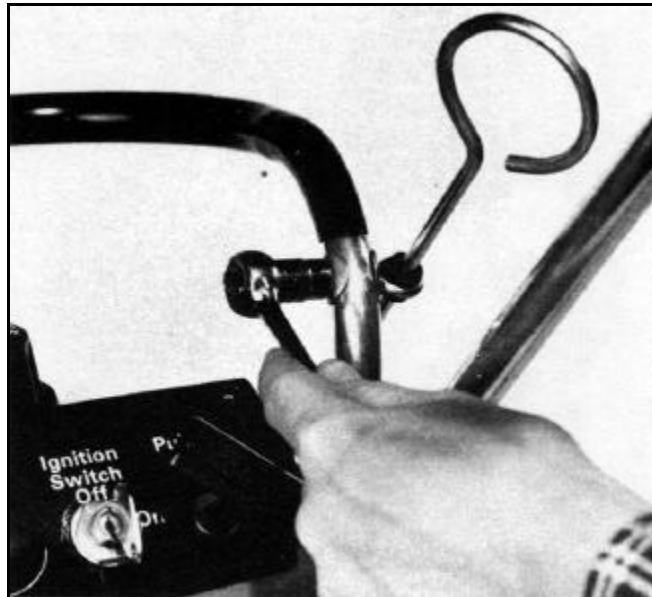

Figure 177
2. Remove eye bolt nut from eye bolt at the lower handle (Figure 177). If the rubber grommet is worn or missing, replace. Next, slide the vane control rod from the small slot in the vane bracket.